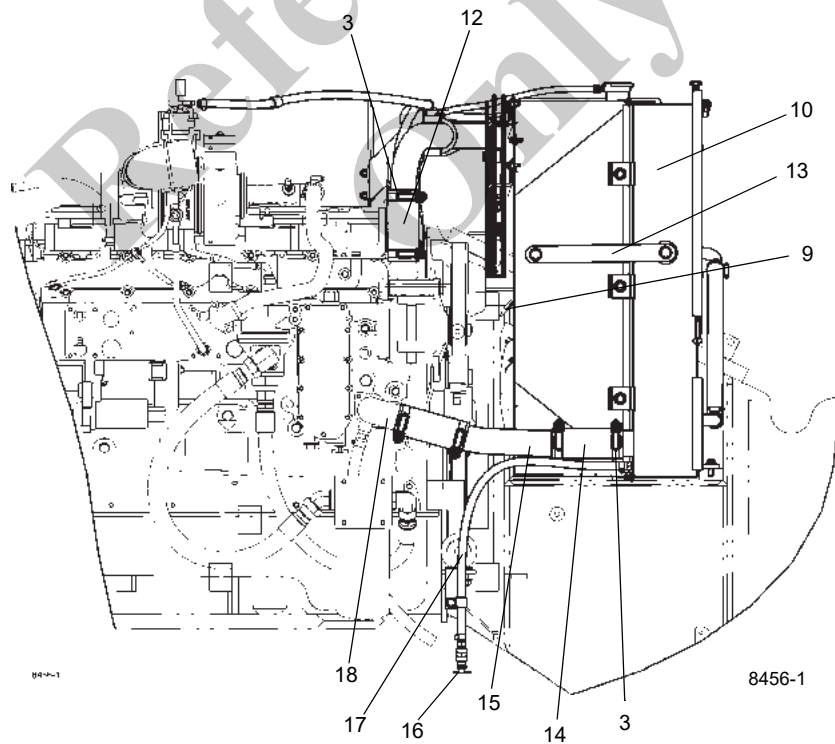

FIGURE 7-16
2. **Drain Plugs** - The water jacket of each engine could have one or more drain plugs (see Figure 7-16). These should receive seasonal care and be kept free of rust and scale.